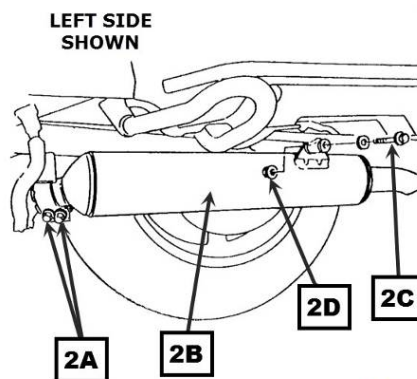

FIGURE 2
3. USING A 12MM WRENCH LOOSEN BUT DO NOT REMOVE THE 2 BOLTS (2A) ON THE CLAMP AT THE FRONT OF THE MUFFLER. (SEE FIGURE 2)
4. USE TWO 12MM WRENCHES, ONE TO REMOVE THE BOLT (2C) AND THE OTHER TO HOLD THE NUT (2D) ON THE BACK SIDE. (SEE FIGURE 2)